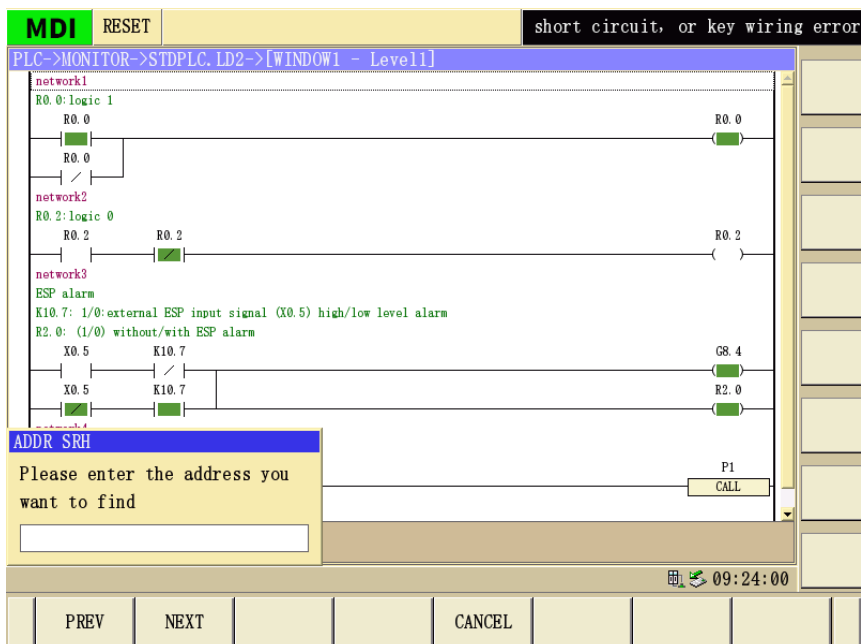

Fig. 1-15
- ② Press the  soft key to enter the search page, as shown in Fig. 1-15, and enter the address to be searched in the dialog box.